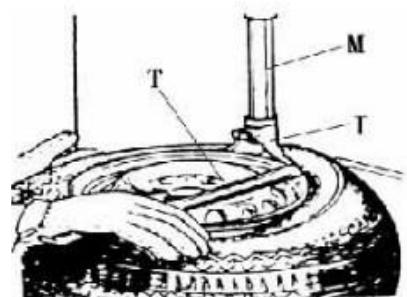

Fig. 6
4. Lower the Vertical Arm (M) until the mounting/demounting head (I) rests next to the edge of the rim.
7. Insert the lifting lever (T) between the tyre bead and the front section of the mounting/demounting head (I), and move the tyre above the mounting/demounting head as shown as figure 6.